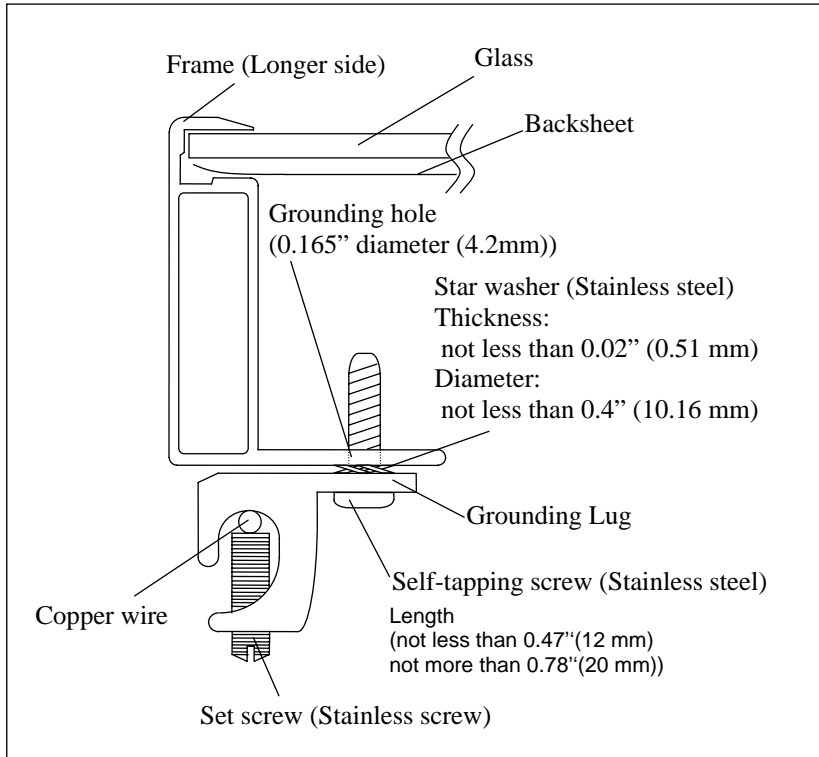

Figure 3.4 (Method 3)
- As shown in figure 3.4, attach grounding lug to module frame using a stainless steel self tapping screw.